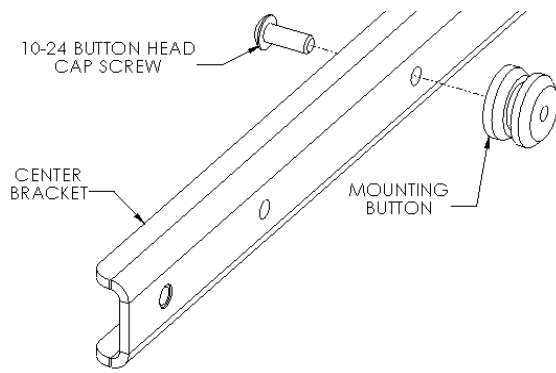
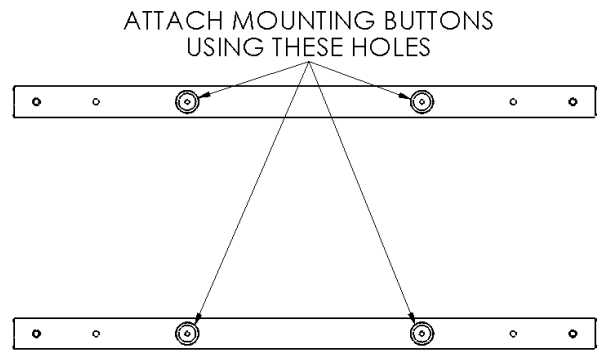

Figure 2
Figure 3
1. **Chief Q-latch Button Installation (Used with M-series mounts):** Using a 10-24 button head cap screw inserted from back side of bracket, secure mounting button, with chamfered hole of mounting button (larger surface) facing bracket, to center brackets (four places) (see Figure 2 & Figure3).